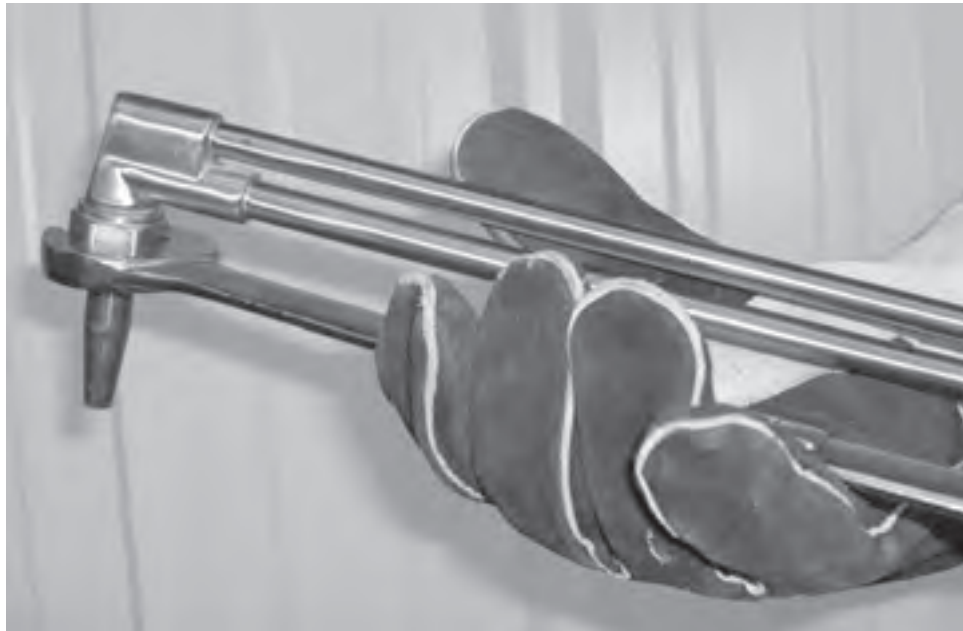

Figure 17: Tightening the Tip Nut
4. Insert the tip into the cutting attachment head. Tighten the tip nut securely with a wrench (15 - 20 lbs. torque) (see Figure 17, page 48).